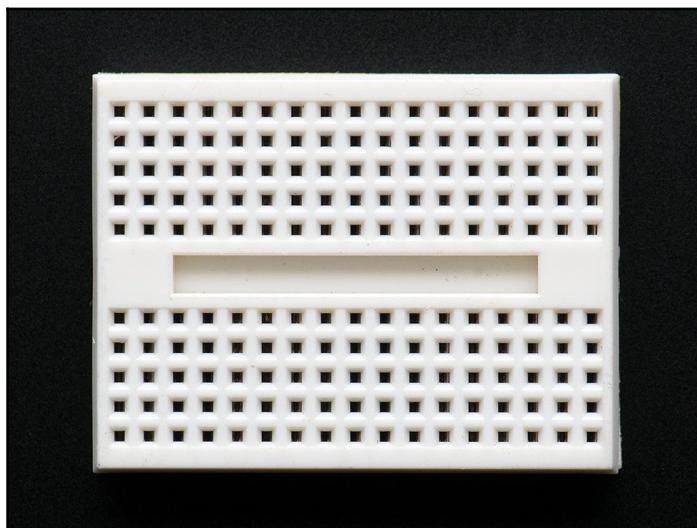

Figure 8.10: Tiny breadboard (<https://www.adafruit.com/product/65>). Image courtesy of Adafruit Industries
8. Now, attach the ArduCAM on the expansion plate with a small breadboard (*Figure 8.10*), using a piece of double-sided tape: